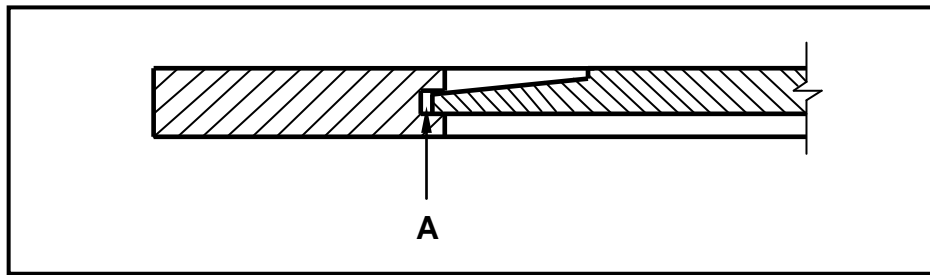

FIGURE 6.8
6.8 Explain the purpose of opening **A** in FIGURE 6.8 below.